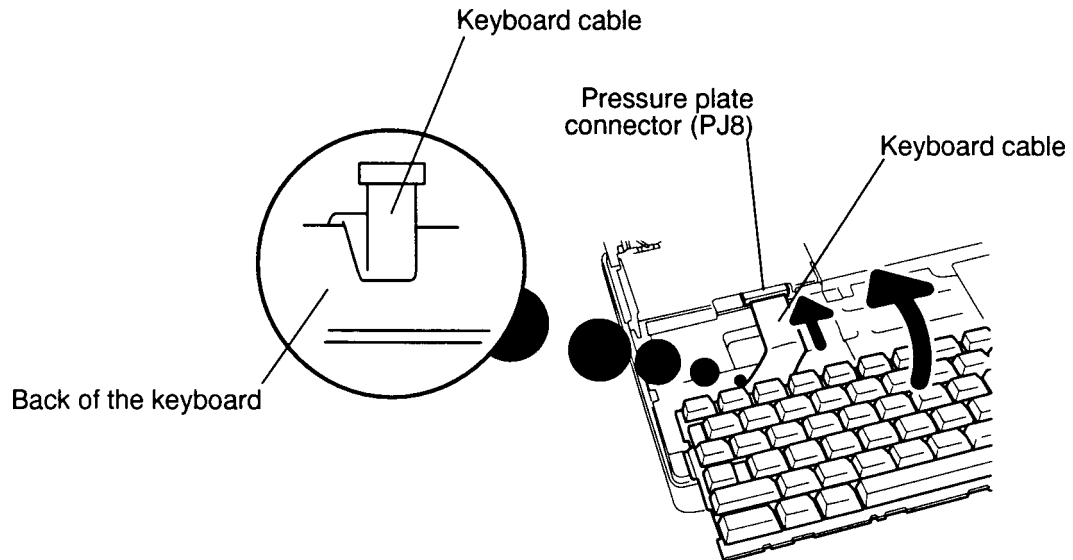

Figure 4-15 Seating the keyboard
2. Seat the keyboard in the T4850CT. Note that a fold is built into the keyboard cable. Do not try to bend the cable at any other point when you install the keyboard (Figure 4-15).